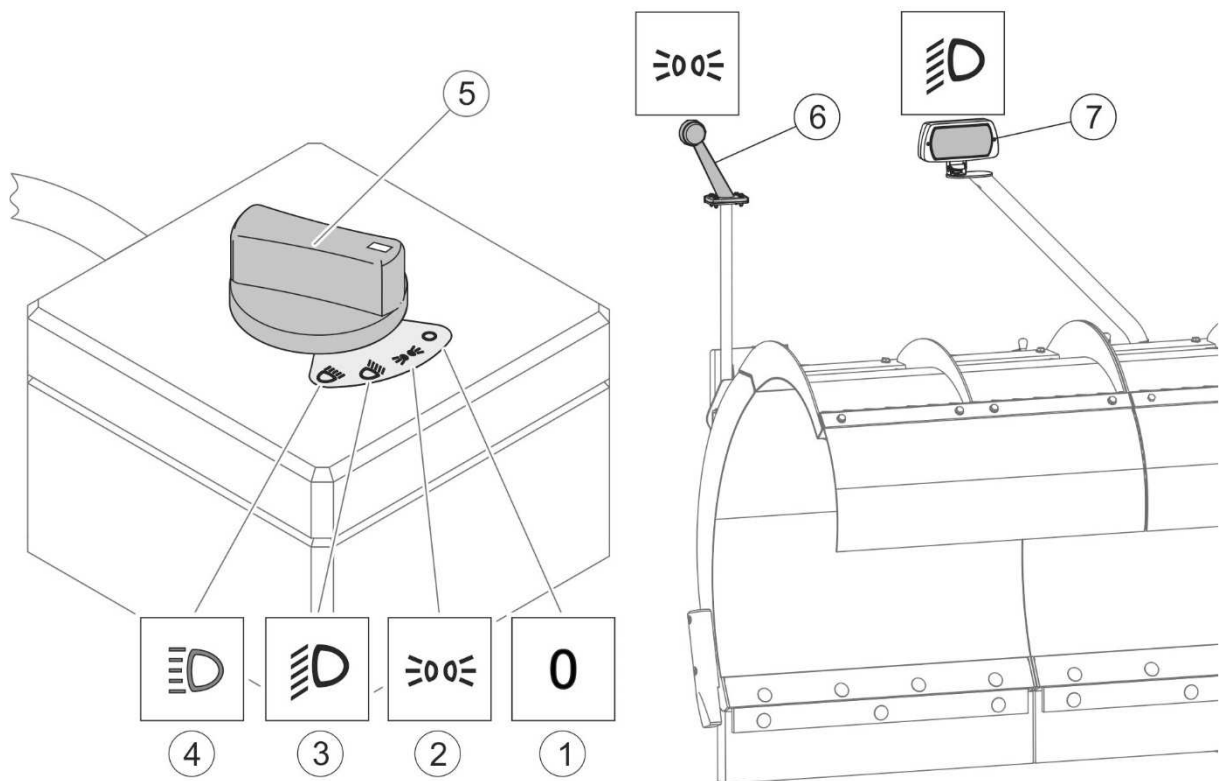

FIGURE 4.14 Switching the lights on. (the snowplough equipped with the hydraulic system with two pairs of quick couplers)
(1) - lights OFF; (2) – clearance light ON; (3) – low beams and clearance light ON; (4) – high beams and clearance light ON; (5) – light switch; (6) – clearance light lamp; (7) – additional light lamp (low beams and high beams) (option).
The snowplough is equipped with clearance lights (6) (FIGURE 4.14) and optional additional lights (low beams and high beams) (7). In the snowplough controlled by the external hydraulic system of the carrying vehicle through 2 pairs of quick couplers, the lights are switched on using switch (5). Turn the switch to position (2) to switch on the clearance lights (6). Turn the switch (5) to position (3) (low beams) or (4) (high beams) to switch on the additional